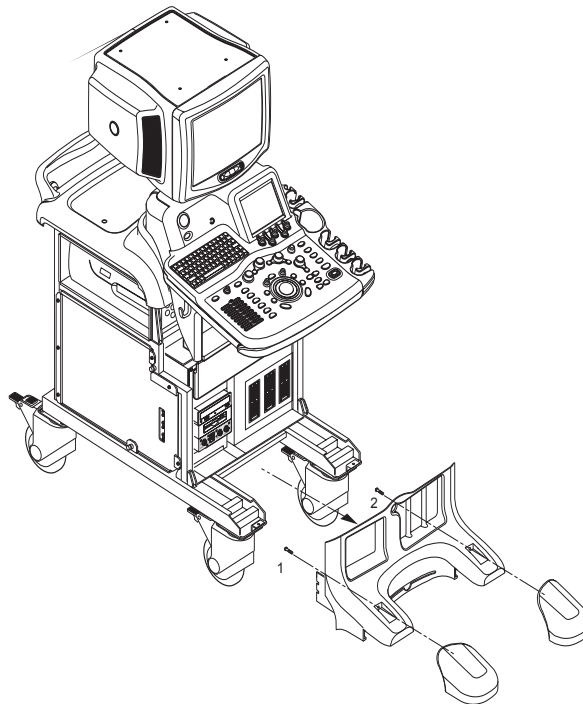

Figure 8-110 Removing the Bumper Set
- 6.) Remove the Bumper Set. Refer to Figure 8-110 on page 8-60 .